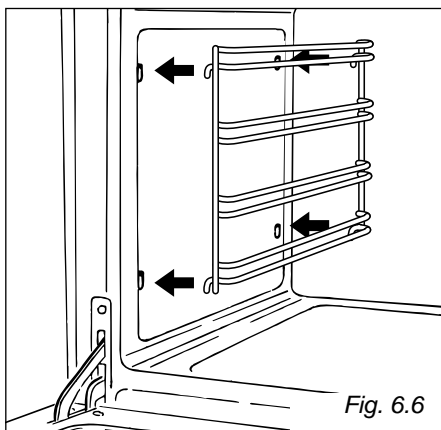

Fig. 6.6
- Hang up the wire racks on the oven walls (fig. 6.6)